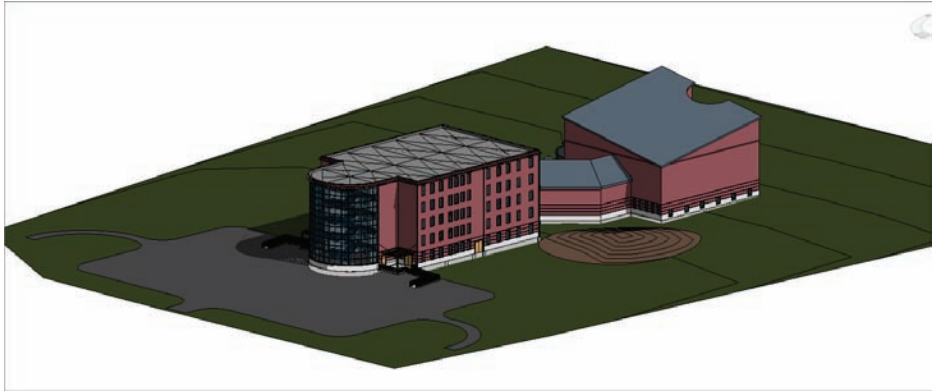

FIGURE 18.13 The sidewalks in 3D
8. Go to a 3D view, and compare yours with Figure 18.13.